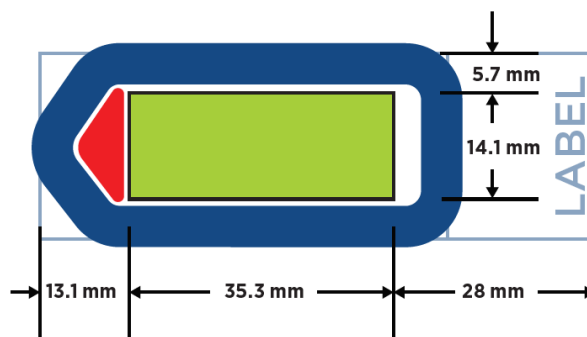

Figure 12: Slide dimensions. Measure from label edge of slide as reference point.
- Tissue sections must be placed in the **Scan Area** (shown in green in Figure 12) in the center of the slide and be **no larger than 35.3 mm long by 14.1 mm wide**. They should not overlap the slide gasket (shown in blue) or the tip calibration area (shown in red). If mounting multiple sections per slide, ensure that tissues are at least 2–3 mm apart and still fit within the Scan Area.